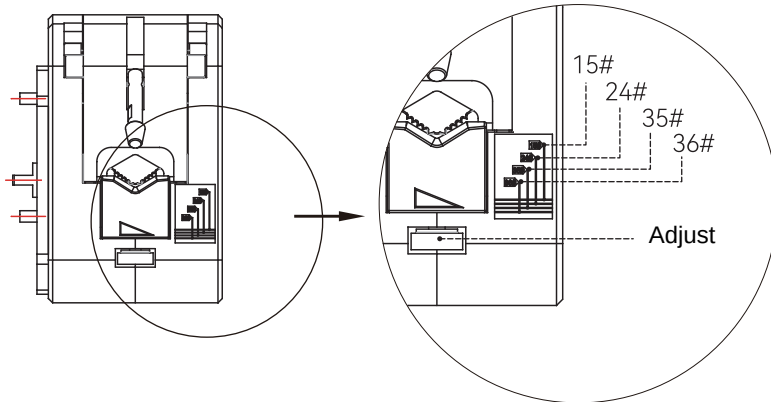

Figure 4 Tube Clamping Adjustment
- According to the specifications of the tube, rotate the screw at the bottom of the tube clamp (Note: the triangle on the tube clamp corresponds to the direction identification and tube specifications), and clamp the tube, as shown in Figure 4.